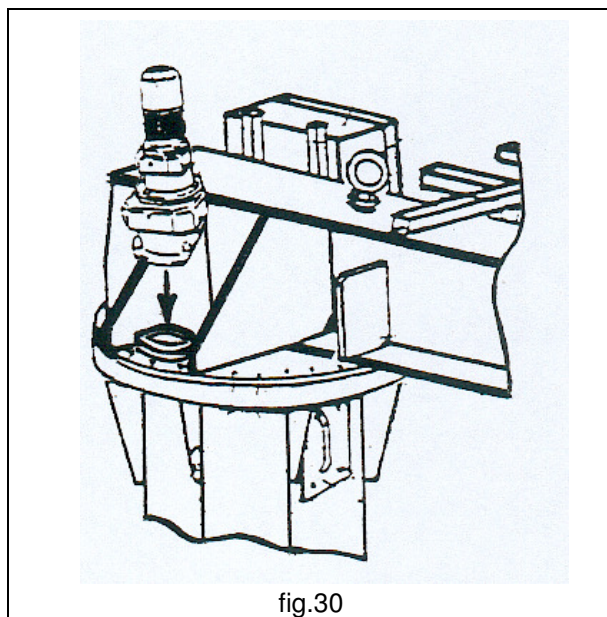

fig.30
6. Fit the geared motor (verify that the pinion teeth are greased with care) in its side and verify that it is perfectly connected in its flange welded on the arm (fig.30). If this operation is difficult by misalignment between the teeth of the pinion and thrust bearing, move the arm or the geared motor up to there is a perfect alignment.